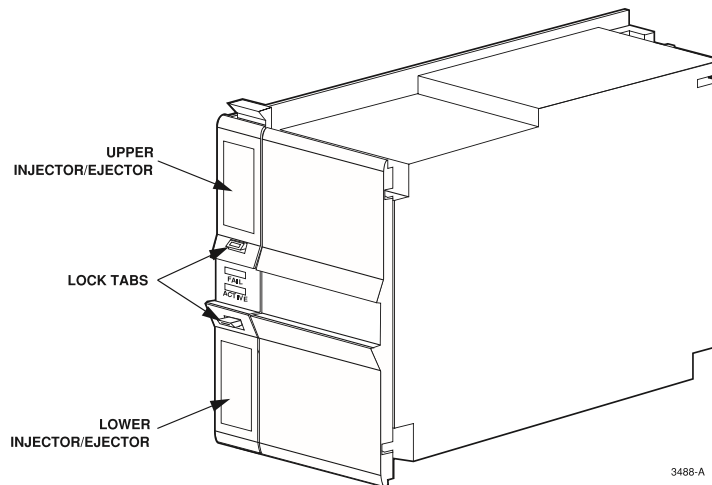

Figure 5-15. Power Unit (PWRU)
3. Release the lock tabs on the PWRU to free the upper and lower injectors/ejectors as shown in Figure 5-15.